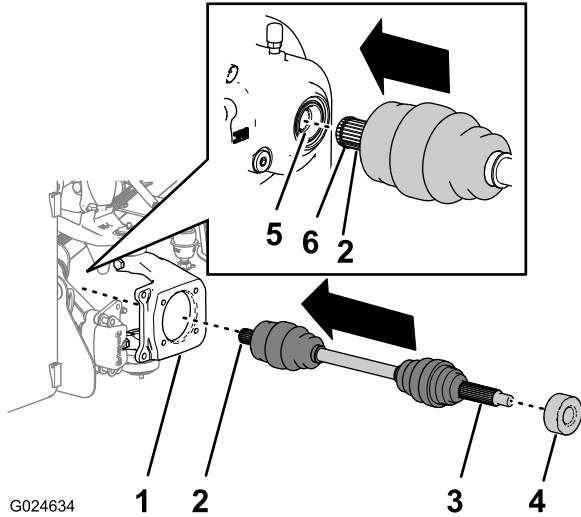

Figure 32
1. Wipe clean the splines at each end of the 2 front axles (Figure 32).
3. Slip the inboard-axle stub of the front axle through the 87.3 mm (3-7/16 inch) diameter hole in the steering knuckle (Figure 32).
4. Align the splines of the inboard-axle stub with the splines in the differential-drive socket, and move the axle inboard until it is fully seated in the drive socket (Figure 32).
5. Slip the spacer over the outboard-axle stub and position the spacer over the inboard portion of the long splines (Figure 32).